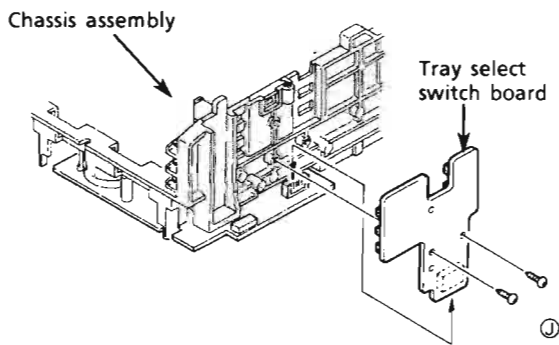

Fig. 40
5. Remove 2 screws ① securing the tray select switch board. (See Fig. 40.)